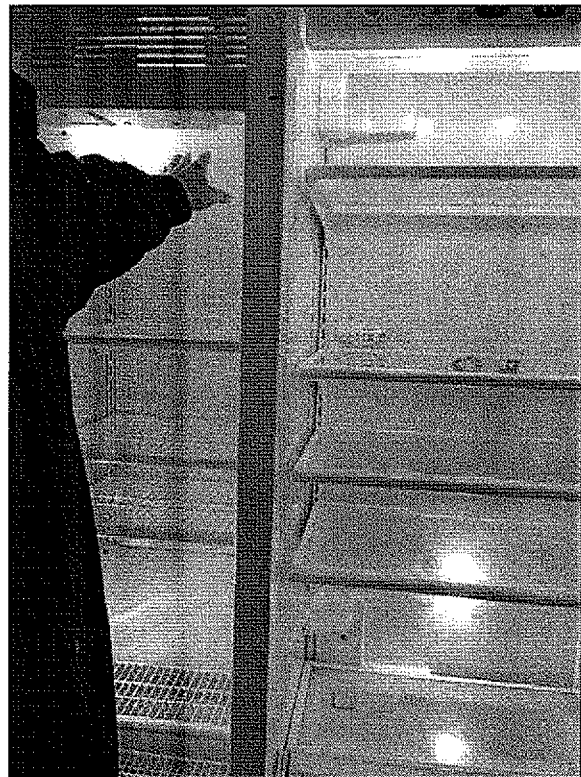

FIGURE 29
30. Locate and turn the switch back to the ON position. The lights in the unit will now turn back on with the door open. To check if the freezer fan is working, put your hand as shown, in the freezer area, and you should feel air blowing. See *Figure 29*.